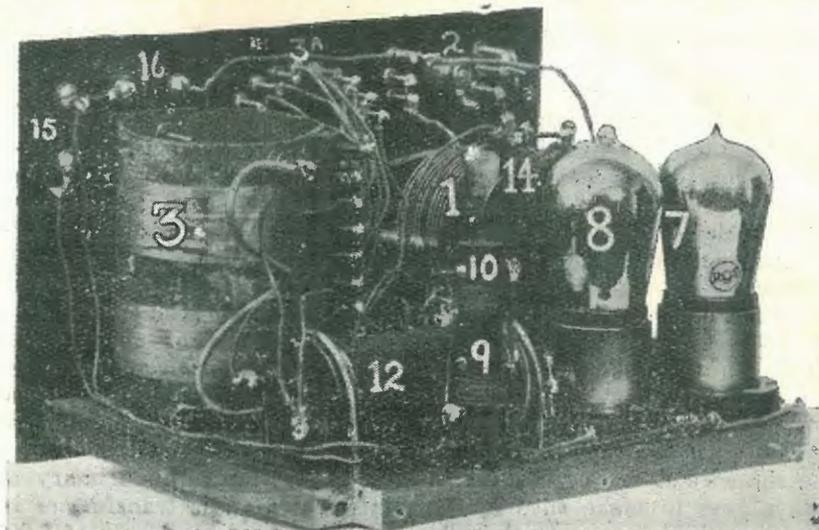

FIG 2.
- (k) Inter-valve transformer. If an open core transformer is desired similar to item 12 of Fig. 2, purchase 6 ozs. of No. 44 s.w.g. Beldenamel wire for the winding and ¼ lb. of soft iron wire for the core.
(1) The tuning condenser is a 23-plate 0.0005 microfarad Kilbourne and Clarke pattern with a vernier plate for fine tuning. In choosing a condenser for use in a valve circuit employing regeneration, always select one with a "pigtail" connection to the rotary plates to avoid the terrible scratching noises caused by variable resistance connections always met with in condensers relying upon a rubbing contact for the completion of the electrical circuit.
(2) So that the condenser can be employed to the best advantage in giving as large a wave-length variation as possible with the available inductance, it should be so arranged that it can be connected either in series with the coil or in parallel with it. This is accomplished by the series parallel switch Item 2, which was built up from a set of Framingham switch parts. It is not necessary to employ the whole of the switch contacts supplied, as a neater switch can be assembled with only six contact studs as shown.
(3) The stator of the reaction tuning unit consists of a cardboard tube three inches in diameter which has been dipped into a bath of very hot paraffin wax to improve its insulation and dielectric properties. The particular tube shown in the photograph of Fig. 2 was obtained from an empty cardboard container in which
(14). A telephone transformer is employed to isolate the windings of the receivers from the injurious effect of the steady, direct current flowing in the plate circuits. It also enables the emergency crystal connection to be brought into operation without altering the telephone connections. It is wound on a similar size core to item 12 with a primary of 10,000 turns of No. 44 Beldenamel wire, and a secondary of 10,000 turns of No. 40 Beldenamel. Referring to Fig. 2, this transformer is located immediately in front of the two valves. If separate terminals are provided for the telephones when used in the crystal and valve circuits respectively, this transformer can be dispensed with.
Figure 2: Front sketch of Panel, illustrating method of mounting parts. The index above also serves here with the exception of LT: Low Tension Battery Terminals. HT: High Tension Battery Terminals.